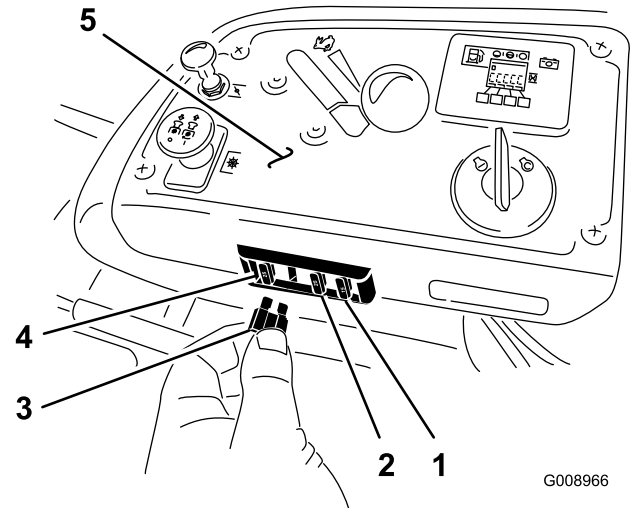

Figure 58
The fuses are located on the console to the right of the seat (Figure 58).
2. Install a new fuse (Figure 58).